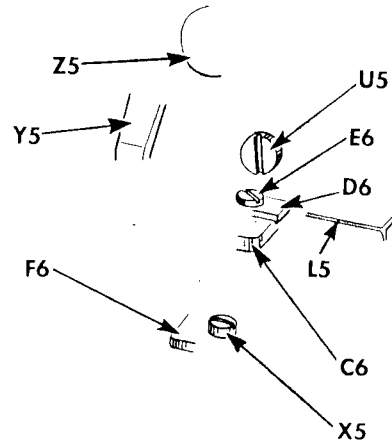

**Fig. 24.**
**Fig. 24** shows a 40-ligne, 4-hole flat button in clamp **175744** with shanking foot **175411**, and with an 18-ligne stay button in stay button holder **175693**, for through and through stitching with stay buttons, away from the material.